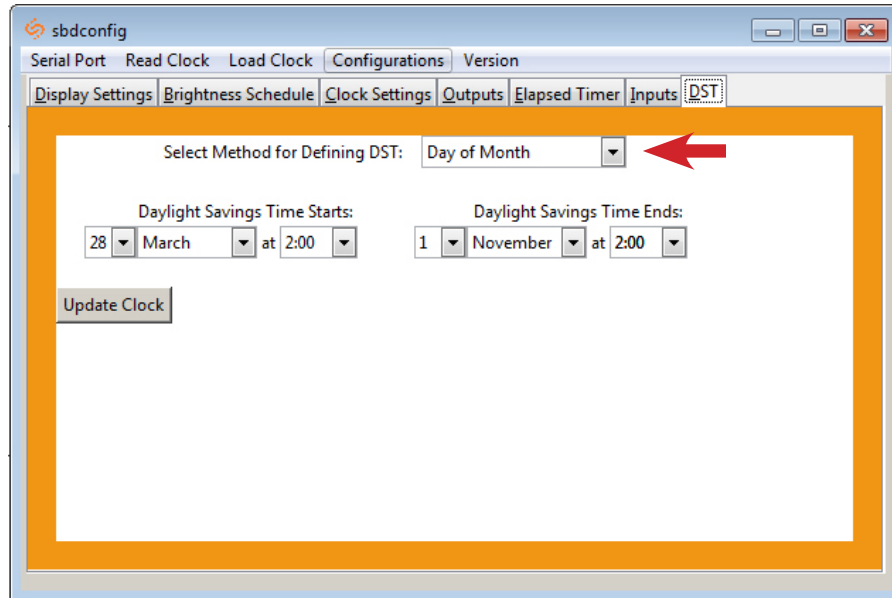

Fig. 4
- **Day of Month:** When this option is selected, Daylight Saving Time can be set based on what date and time it begins and ends. For example, Daylight Saving Time can begin on March 28 at 2AM and end on November 1st at 2AM. (Fig. 4.)